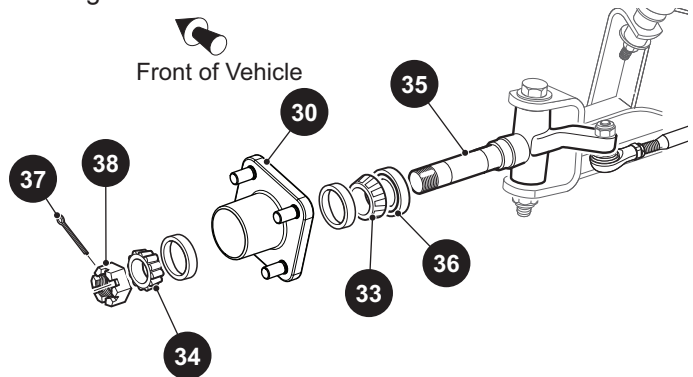

Fig. 8 Hub Replacement
2. Remove the cotter pin (37) and castellated nut (38) (Ref Fig. 8).
3. While holding the outer wheel bearing (34) in place, slide the hub (30) from the spindle (35).
6. Apply a light coat of grease to the inner race and place the inner wheel bearing (33) in the new hub.
7. Orient the new grease seal (36) so that the flange side of the seal is facing into the bore.